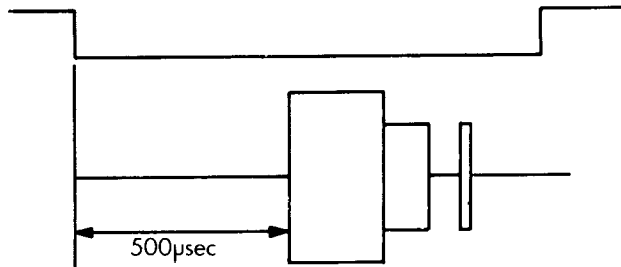

Fig. 5-1 Index burst waveform
- vi) Adjust VR201 so index frequency is  $200 \pm 2\text{ms}$  (See Fig. 5-1).
- 5) Measure timing between sweep start and an initial data pulse. It should be 500 usec  $\pm$  500 usec. When the timing is not within this range, proceed with the following adjustment. (Refer to Fig. 5-1).
- 8) Seek to the track OO and make sure that the timing is within 500 usec  $\pm$  200 usec ( $\pm$  300 usec). Tighten the screws. (Fig. 5-1).